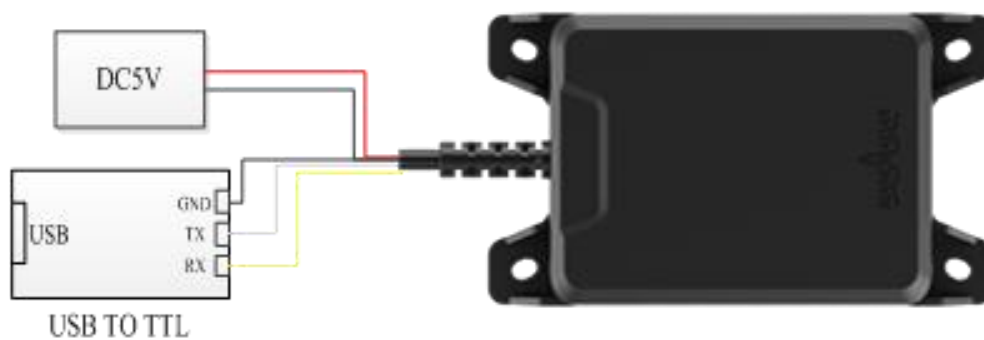

Figure 2 Diagram for serial port connection
2) With a USB connection to TTL serial port adaptor, to connect PC and NRA15, as shown in figure 2 .